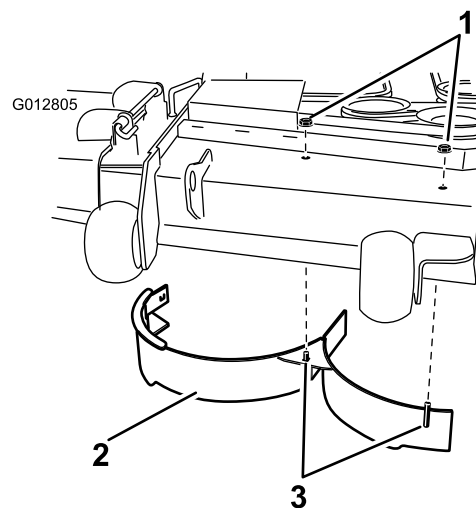

Figure 30
10. Remove the 2 locknuts (5/16 inch) to securing the welded posts of the right baffle to the top of the mower deck at center and right of center positions (Figure 30).